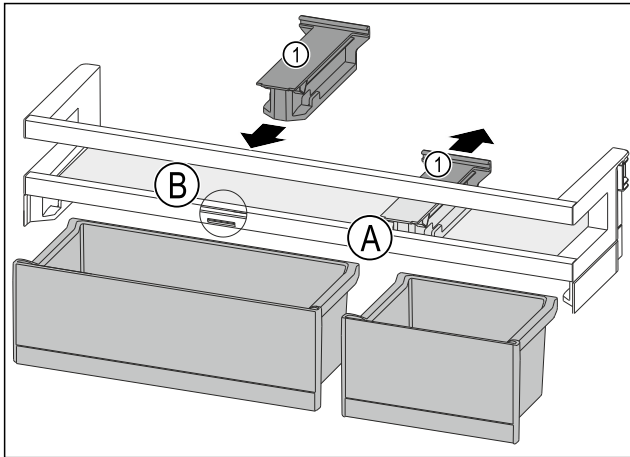

Fig. 105
- ▶ Take off the holding part Fig. 105 (1) in position Fig. 105 (A) backwards.
- ▶ Insert the holding part Fig. 105 (1) in position Fig. 105 (B).